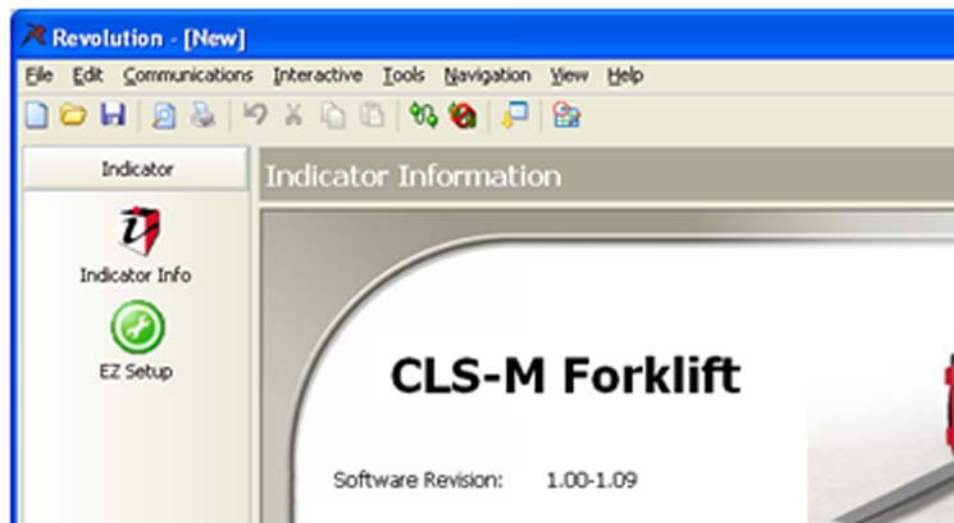

Figure 4-3. Expanded Pitch Angle Selection
5. Once selected, the main screen shown in Figure 4-3 is displayed.